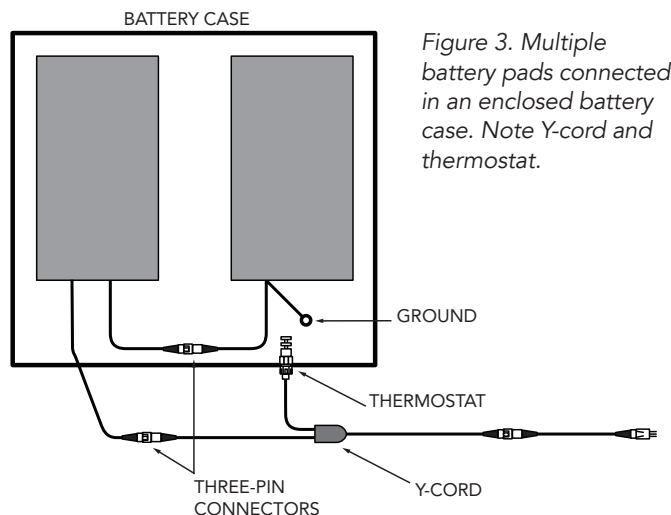

Figure 3. Multiple battery pads connected in an enclosed battery case. Note Y-cord and thermostat.
- If installing multiple battery pads, connect pads using three-pin connectors. Ensure connections are secure and latch is engaged. Connect ground wire. See Fig 3.